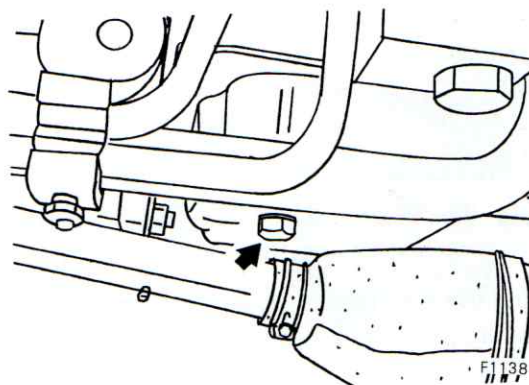

Figure 36 — Engine Oil Drain Plug
1. With the engine off, but at normal operating temperature, drain and discard the engine oil by removing the drain plug, Figure 36. Reinstall the plug after the oil has drained and discard the oil.